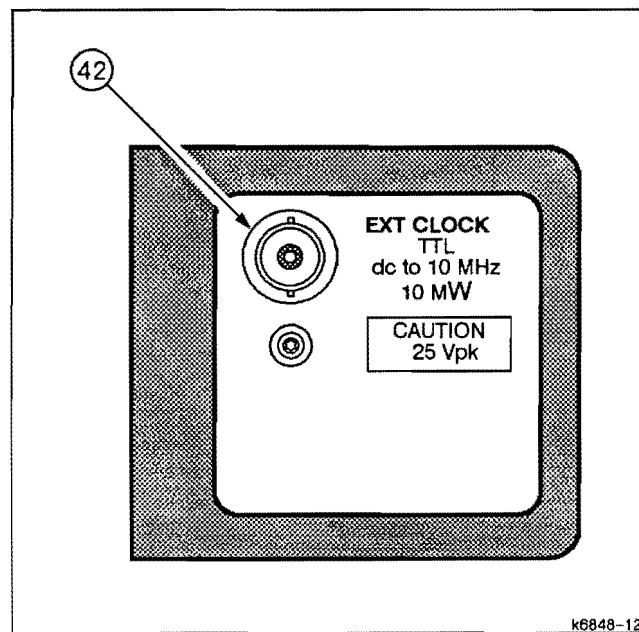

Figure 2-9. Right side panel.
The standard side panel includes one BNC connector. Refer to Figure 2-9 for the location of item 42.
- ④② **EXT CLOCK**—Provides a TTL compatible input for external clock signals to the storage acquisition circuit. The EXT CLOCK input signal is selected when the SEC/DIV switch is in the EXT CLK position. The maximum input frequency permitted depends on the display mode (RECORD or ROLL). The mode is selected with the Variable SEC/DIV control. The frequency ranges are dc to 10 MHz in RECORD mode (Variable SEC/DIV control in CAL detent) and dc to 4 kHz in ROLL mode (Variable SEC/DIV control out of the CAL detent position).